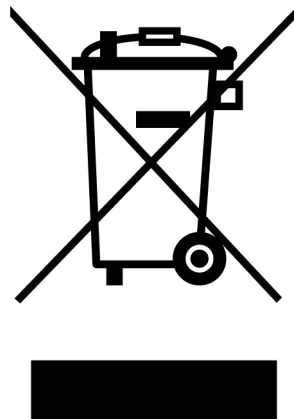

Figure 3 Crossed out “wheelie bin” symbol
- marked correspondingly with the crossed out “wheelie bin” logo (see Figure 3)